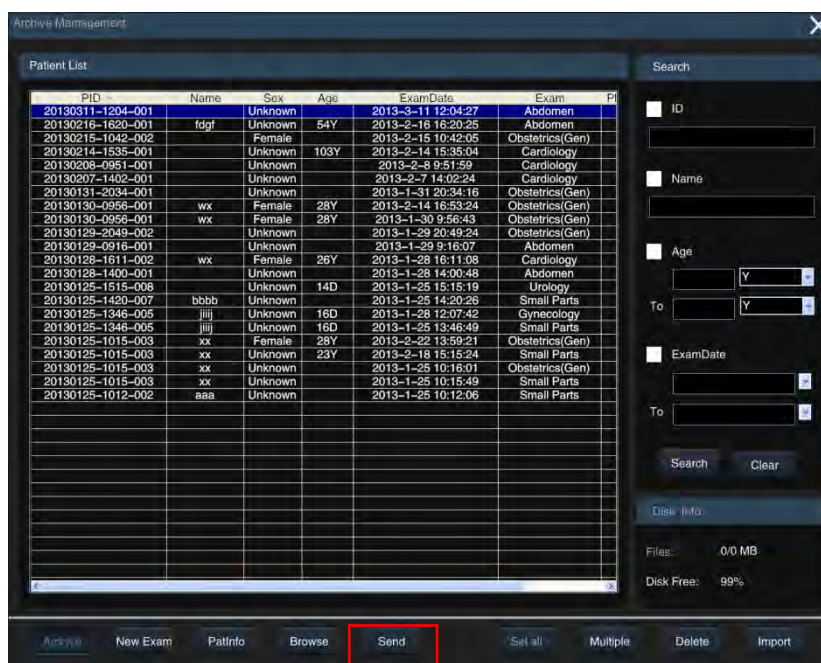

Figure 228: Archive Management screen
1. Click on **Smarchive** on the ultrasound system control panel to open the **Archive Management** screen, as shown in Figure 228.